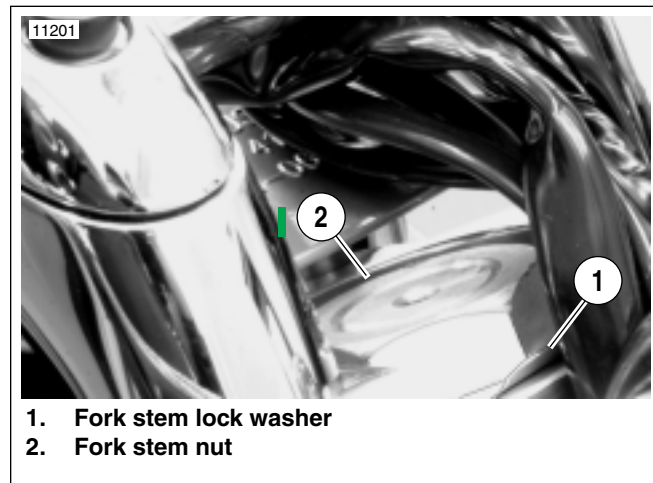

Figure 1-59. Fork Stem Lock Washer and Nut (front view)
- f. See Figure 1-59. Bend down the fork stem lock washer tabs (1), and loosen fork stem nut (2).